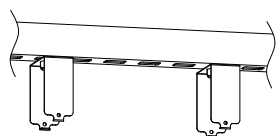

Figure 5
Step1.Mount the bracket on the rail or ceiling (Figure 5);